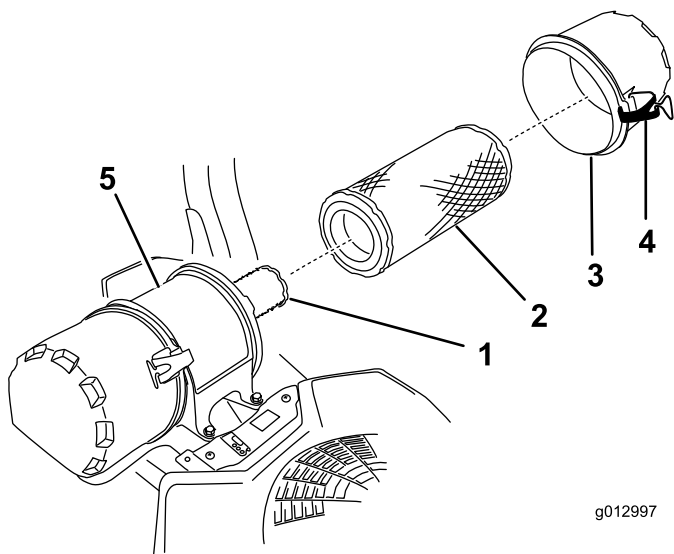

Figure 46
6. Release the latches on the air cleaner and pull the air-cleaner cover off the air-cleaner body (Figure 46).
8. Gently slide the primary filter out of the air-cleaner body (Figure 46).
2. If you are replacing the inner filter, carefully slide it into the filter body (Figure 46).
3. Carefully slide the primary filter over the safety filter (Figure 46).
4. Install the air-cleaner cover and secure the latches (Figure 46).